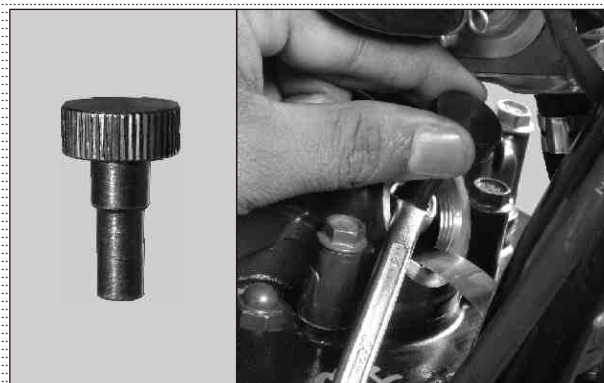

Fig. 1.12
- Used to loosen and tighten the tappet adjusting screw. (Fig 1.12)